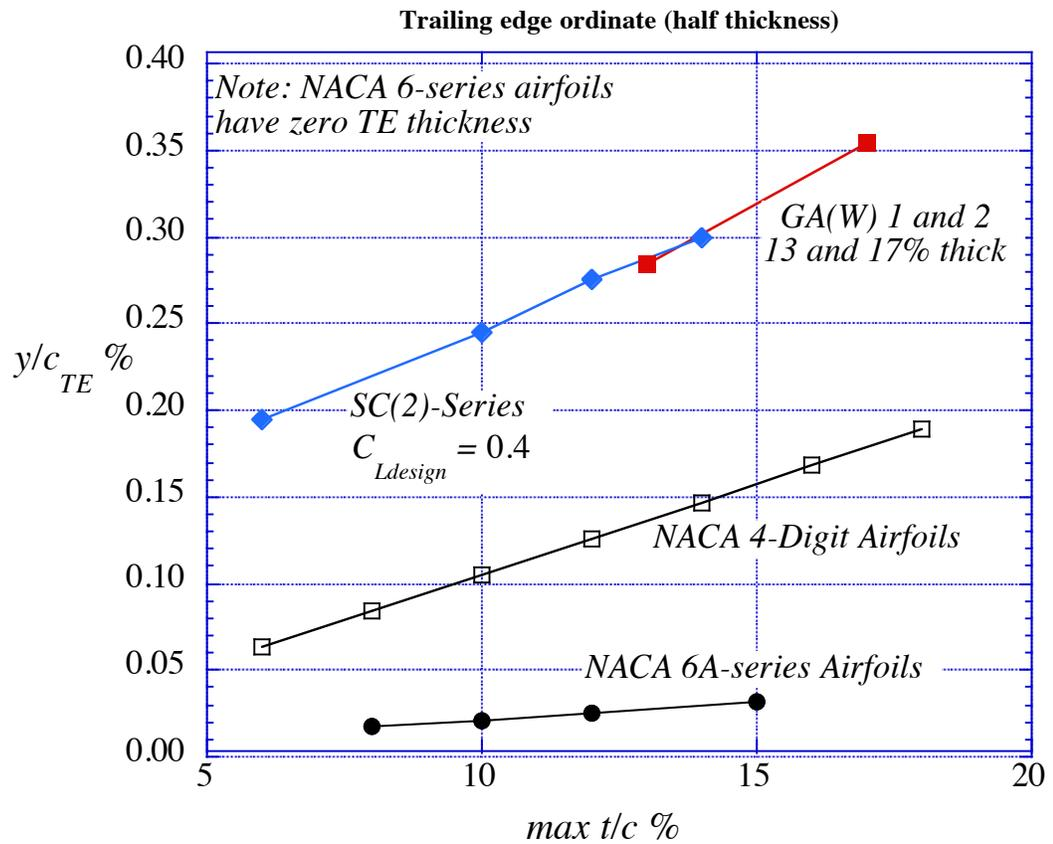
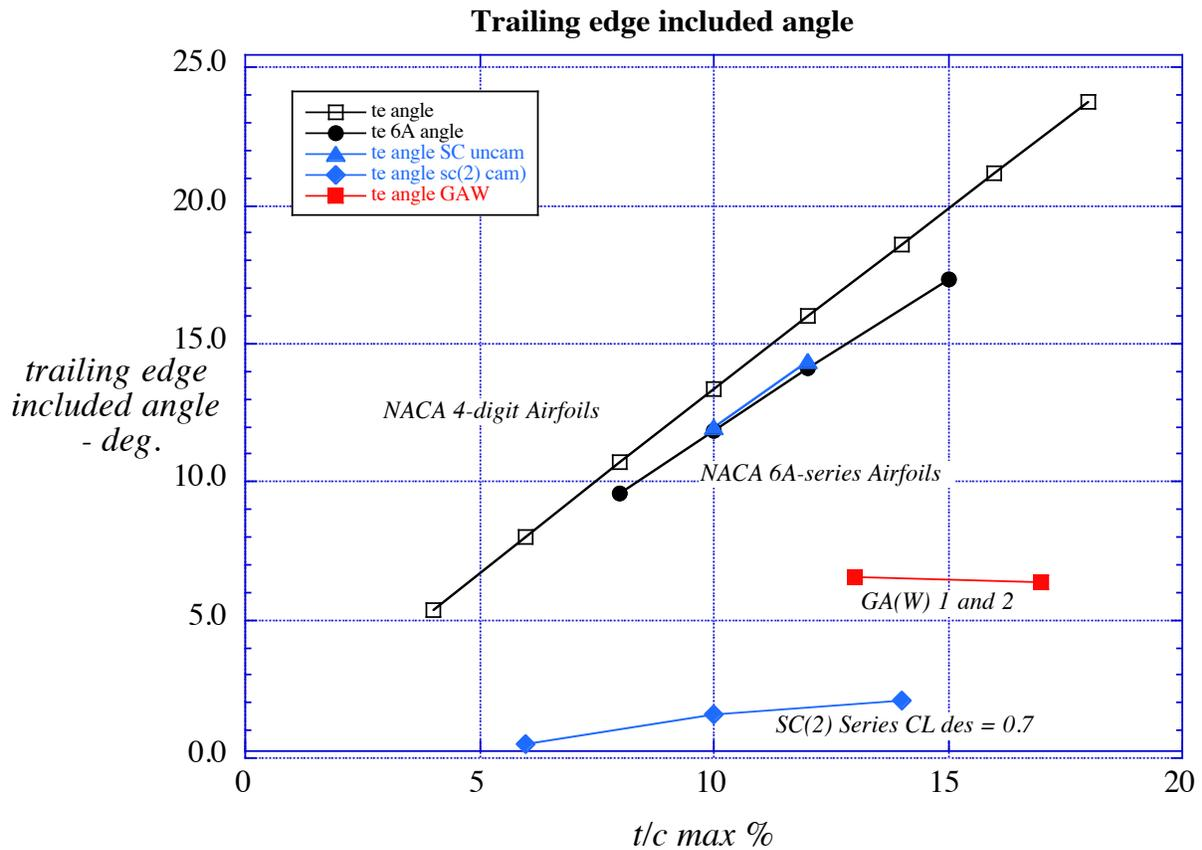
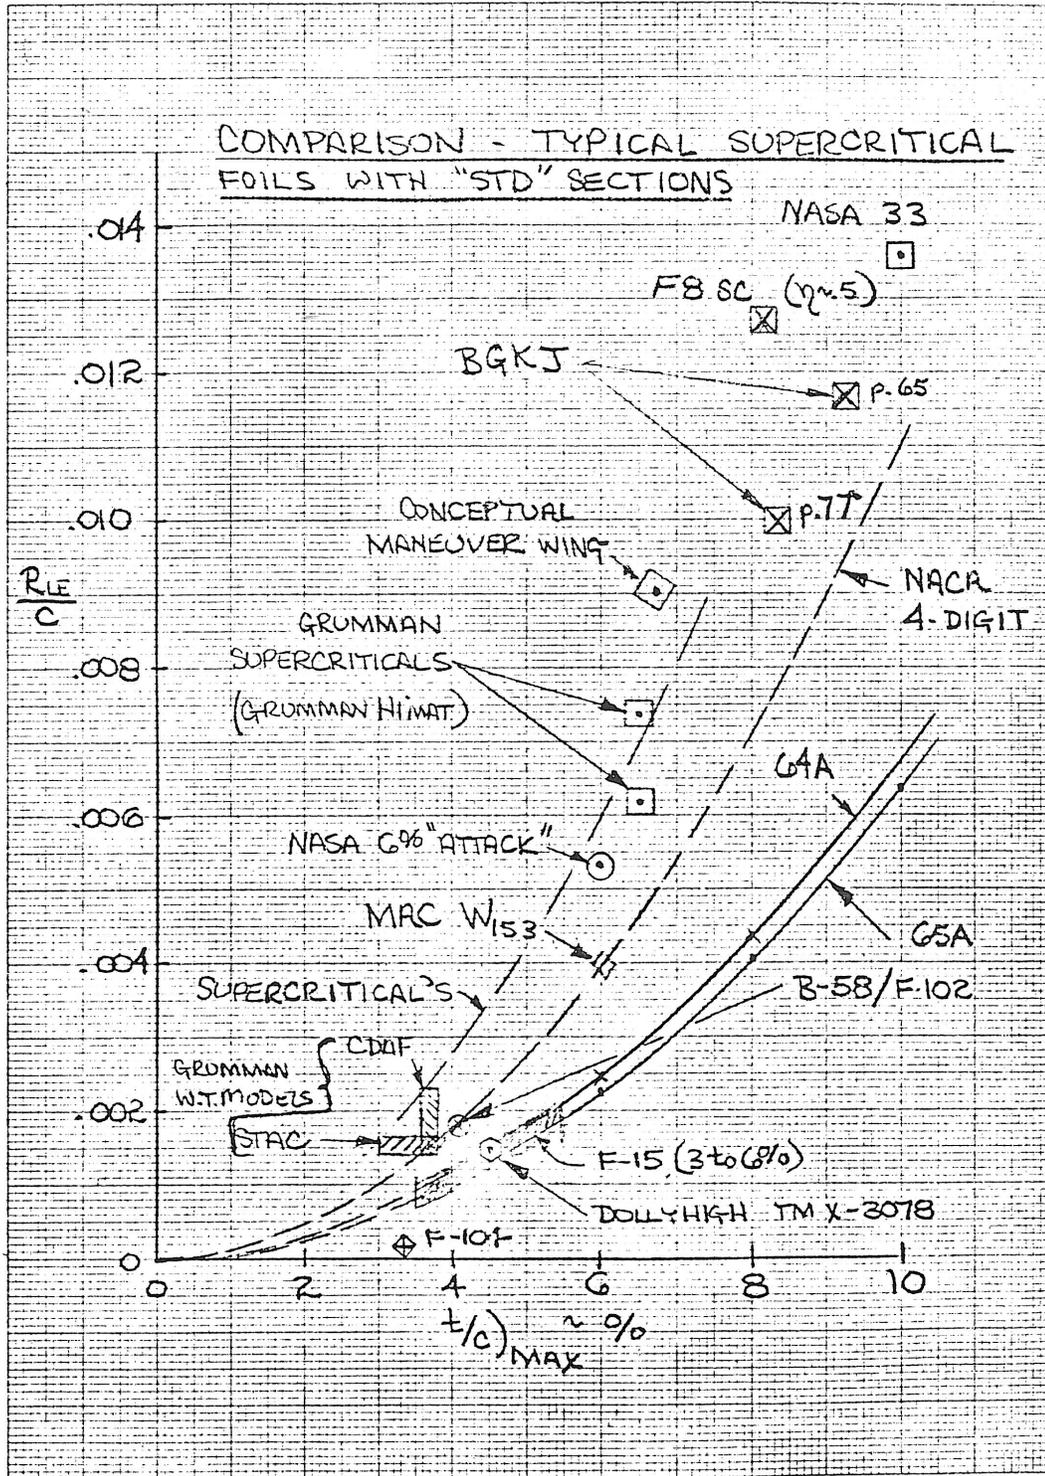
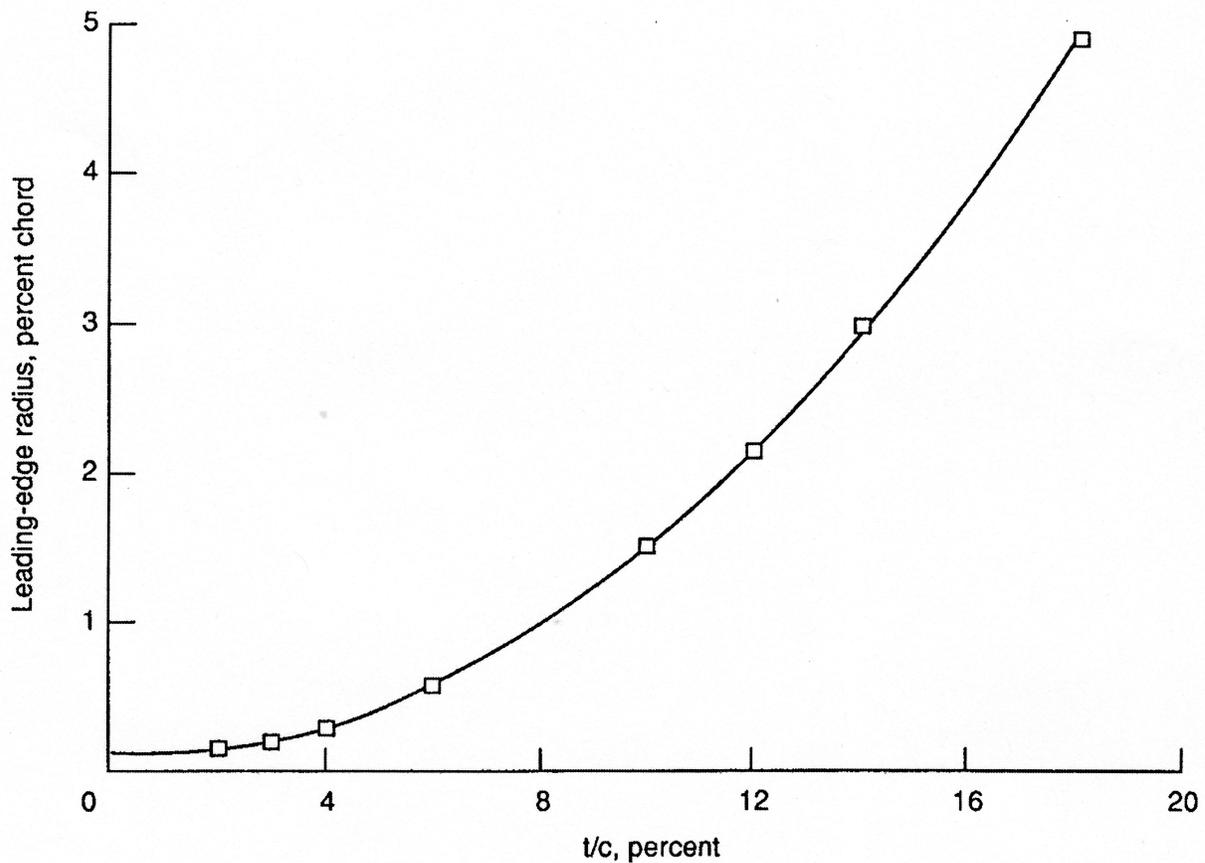

Figure 1. Airfoil trailing edge thicknesses for a variety of airfoils.
Figure 2. Trailing edge included angle for a variety of airfoils
Figure 3. Leading edge radius values (assembled circa early 1980s).
Figure 4. Leading edge radius values of SC(2) airfoils (from Harris, NASA TP 2969)
Figure 1 shows the trailing edge ordinate for several classes of airfoils as they change with the maximum thickness to chord ratio,  $t/c$  (the half thickness at the trailing edge). I've included the NACA 4-digit airfoils, the NACA 6A-series airfoils, the NASA supercritical SC(2) airfoils from Harris, NASA TP 2969, the GAW(1) and GA(W)-2 airfoils that were also part of Whitcomb's work. Note that the original NACA 6-series airfoils specified a cusped zero thickness trailing edge, and the airframers pointed out the difficulty! The NACA 4-digit airfoils are the only airfoils shown here that have an analytic definition for the trailing edge thickness.
Looking at the figure, we see that the NACA 6A series airfoil trailing edges are a fraction of the thickness of the NACA 4-digit series. In contrast, the supercritical and GA(W) airfoils are more than twice as thick at the trailing edge as the NACA 4-digit series. As we'll see in Fig. 2, you can have a thicker trailing edge without a drag penalty. The trick being to reduce the included angle between the top upper and lower surfaces.
Figure 2 shows the angle between the upper and lower surfaces for the same airfoils shown in Fig. 1. In this case the story is reversed. The supercritical airfoils have a much smaller included trailing edge angle than the classical NACA airfoils. The message is clear: allow the trailing edge thickness to be larger than the NACA 4-digit series, but make the upper and lower surfaces nearly parallel.
To complete this survey I'm including the leading edge radius values of some airfoils. This shows that you can have a leading edge radius greater than the old NACA airfoils. Curiosity 20 presented some results showing that increasing the leading edge radius didn't result in an increase in basic parasite drag. There are several benefits of the increases radius. They include a reduced sensitivity to angle of attack and they also "fill out" the pressure distribution over the forward part of the airfoil. Figure 3 is a chart I put together many years ago providing a comparison of airfoil characteristics similar to the results presented in Figures 1 and 2. The figure concentrates on typical supersonic fighter values of thicknesses. Figure 4 is from the Harris report and shows the leading edge radius values for the SC(2) series of supercritical airfoils.